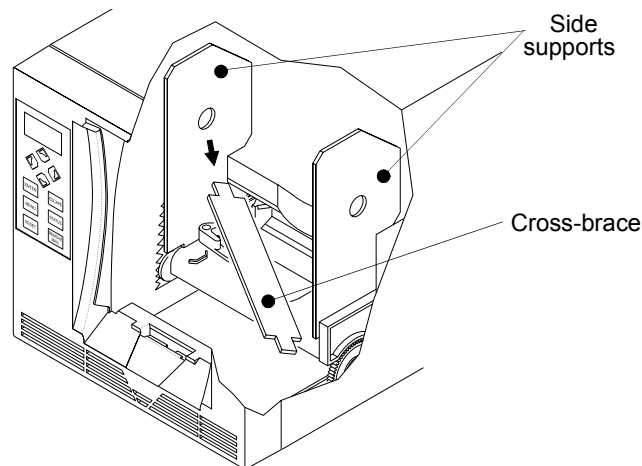

Figure 7-5 Inserting the cross-brace
9. Insert one end of the cross-brace into the hole on one of the side supports (see Figure 7-5).